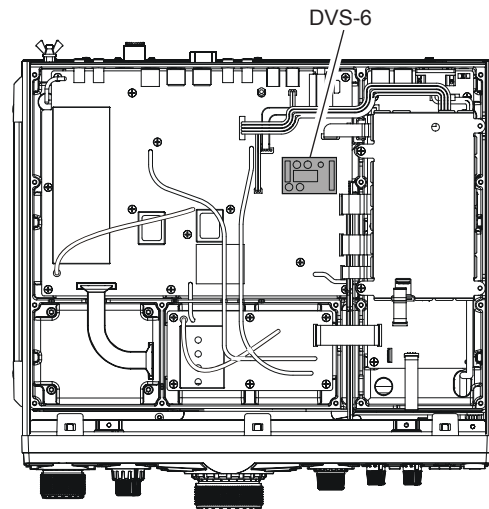

FIGURE 3
4. Refer to Figure 3, push the **DVS-6** onto the pins corresponding to its assigned mounting location on the transceiver. Gently press the board down until it is firmly seated in its connectors.